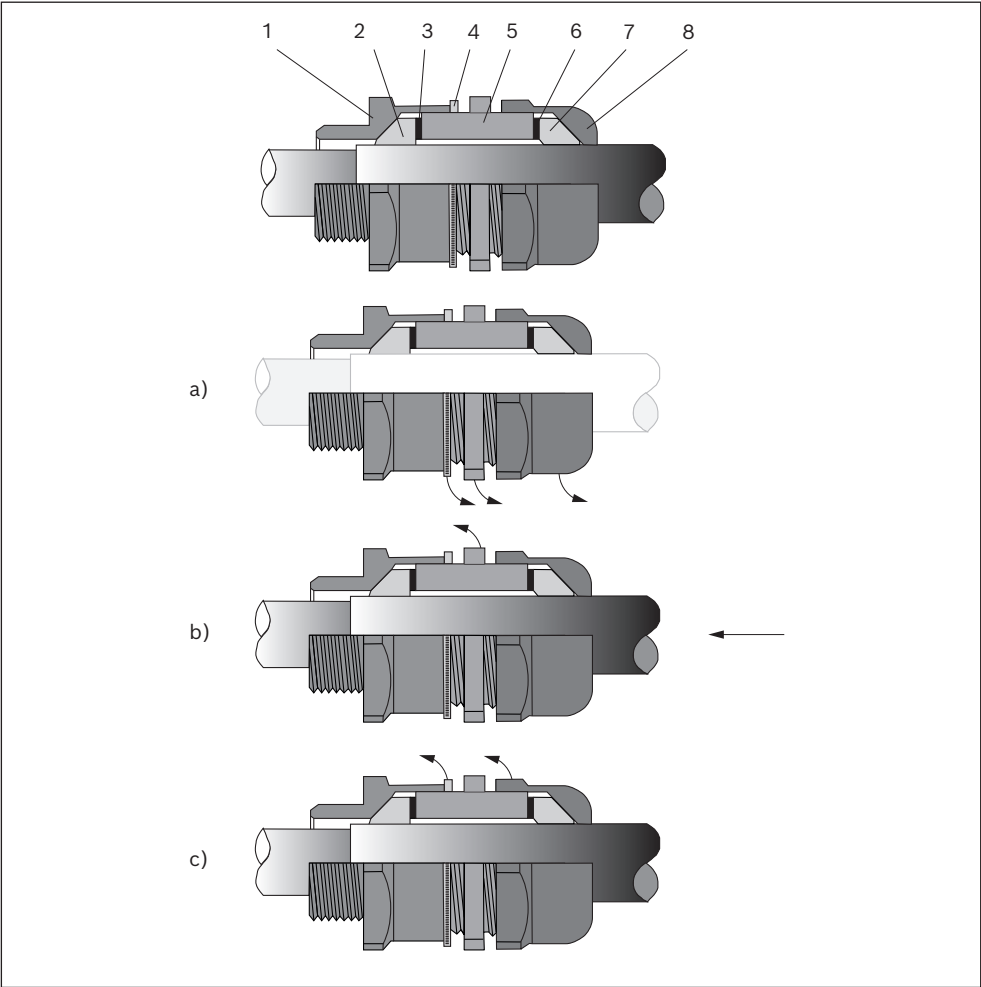

Fig. 4: Cable and line entry
- ▶ The wires of the connection line are connected to the 2 pin operating voltage connection and the protective grounding conductor. The separate equipotential bonding conductor must be connected to the connection for potential equalization conductor. For the position of the connection, see fig. 4.
The terminal box with its cover in the marked **area A** and the cable and line entry in the **area B** (fig. 4) will create a pressure-resistant gap. To ensure explosion protection, these gaps may not be modified. No damage, contamination and coloring is admissible on surfaces forming a pressure-resistant gap.